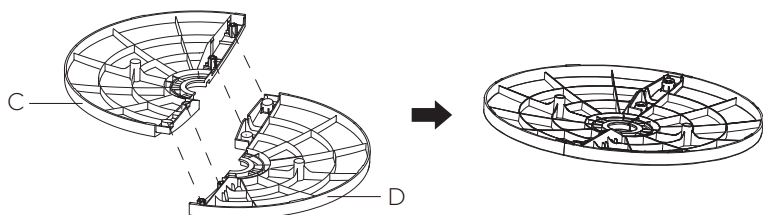

Fig 3
3. Take out the two parts of base from packing box. Insert the two poles of part C into two holes of part D, and insert the two poles of part D into two holes of part C to assemble the base as Fig 3.